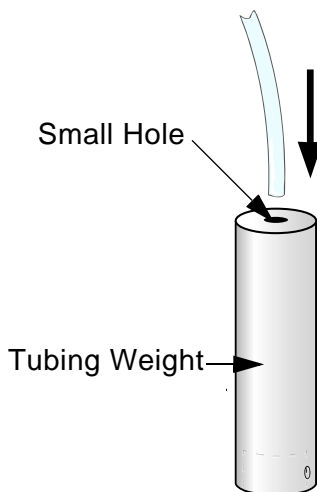

Figure B-1. Tubing in Tubing Weight
5. Push the tubing end through the small hole in the top of one of the tubing weights until the tubing extends through the opposite end (see Figure B-1).